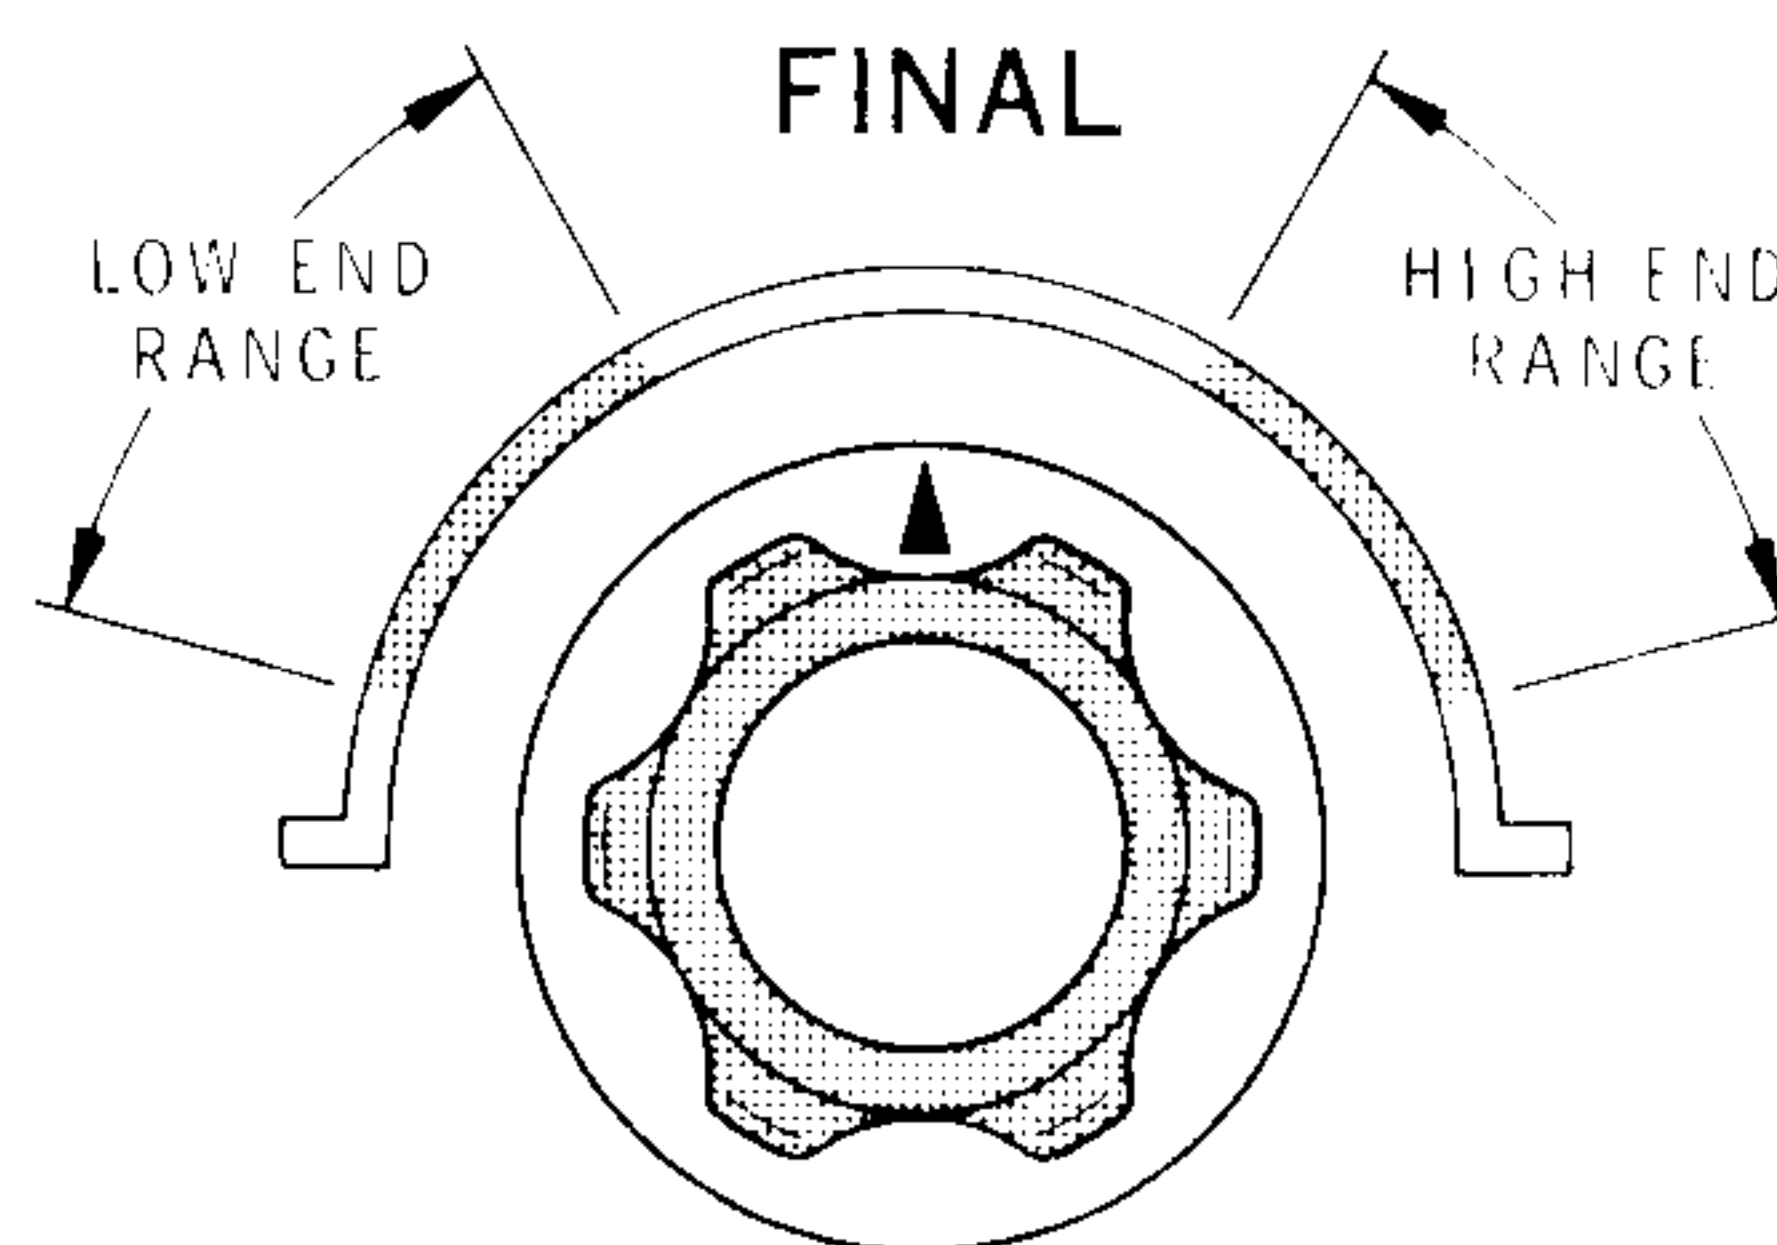

Figure 8-4
- ( ) Keep the LB equipment on TUNE and turn the Transverter FINAL knob index mark back and forth around the 10 o'clock position while watching the VTVM. If the peak voltage occurs with the knob index mark between 9:30 and 11 o'clock, no adjustment action is required (See Figure 8-4). If the peak voltage is observed earlier than the 9:30 o'clock position, more inductance is required. If the peak voltage is observed later than the 11 o'clock position, less inductance is required. Perform the appropriate group of steps following.